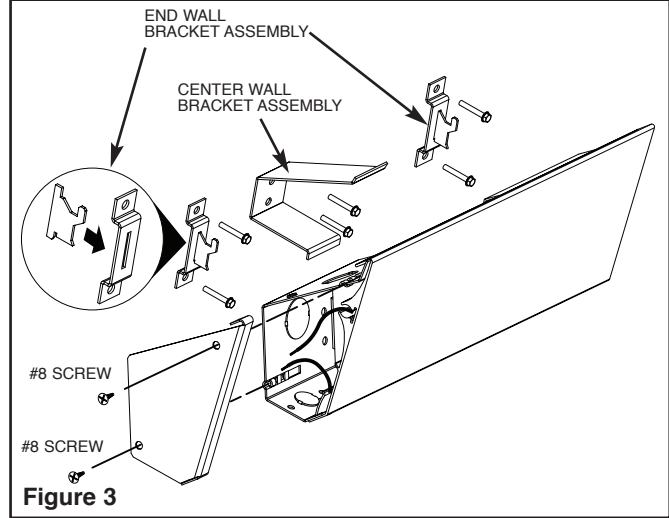

Figure 3
How to assemble end wall bracket: Refer to Figure 3. Insert mounting hook piece into the wall plate as shown.
6. Attach end caps (found in parts bag) as shown in Figure 3.